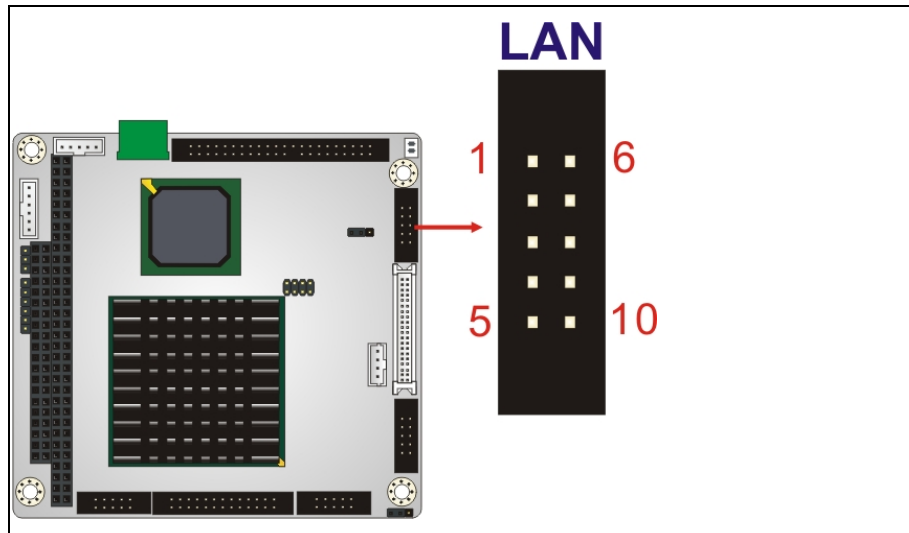

Figure 3-11: LAN Connector Location
- CN Location:** See **Figure 3-11**